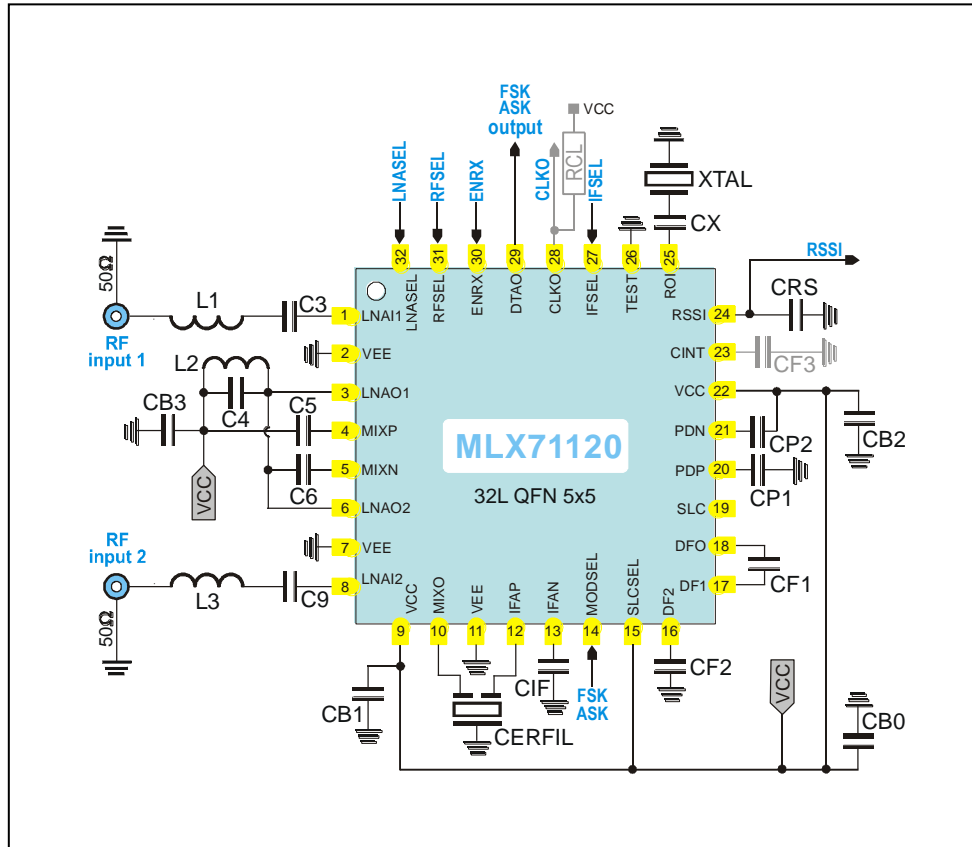

Fig. 10: Dual-channel circuit schematic, peak detectors activated
typical values at $T_A = 23^\circ\text{C}$ and $V_{CC} = 3\text{V}$, all parameters based on test circuits as shown Fig. 10
5.1.1. Test Circuit Component List for Figure 10